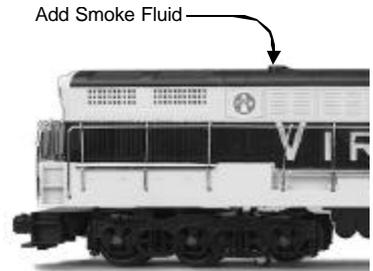

Figure 2. Add Smoke through the Smokestack
- Prime the operating smoke unit with smoke fluid before operating. Add 15-20 drops of smoke fluid through the smokestack (see Fig. 2), then gently blow into the stack to eliminate any air bubbles in the fluid.
When preparing to run this engine, add 15-20 drops of smoke fluid through the smokestack (see Fig. 2). We recommend M.T.H. ProtoSmoke, Seuthe, LGB, or LVTS fluids. Do not overfill the unit or the fluid may leak out and coat the interior engine components.